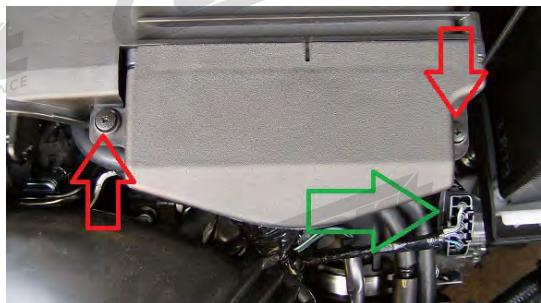

Figure 2A
C) Remove the ECU wiring cover (as shown by the **Red Arrows** in **Figure 2A** & **2B** below) by unscrewing the two clips using a Phillips head screwdriver.
D) Disconnect the MAF housing harness plug (**Green Arrows** from **Figure 2A** & **2B**) from the Mass Airflow Sensor by pushing the thumb latch and pulling the plug out of the sensor.